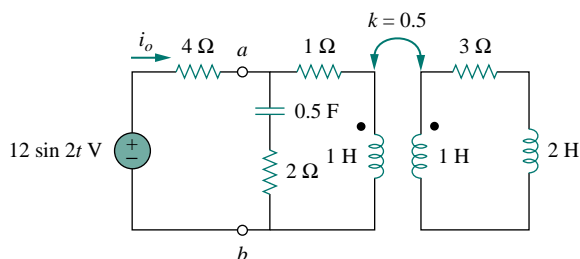

Figure 13.88 For Prob. 13.18.
- 13.18** For the network in Fig. 13.88, find \mathbf{Z}_{ab} and \mathbf{I}_o .